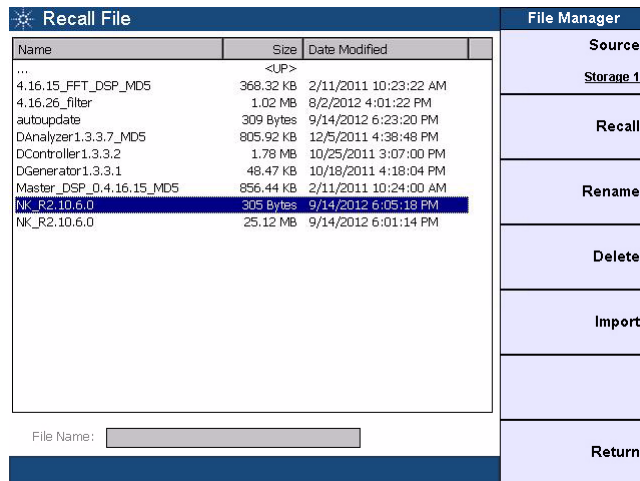

Figure 1-9 Recall file manager
- 4 Select the software or firmware file to be updated, and press **Recall** as shown in Figure 1-9. Refer to “Recall” on page 103 for more information on the recall file manager.